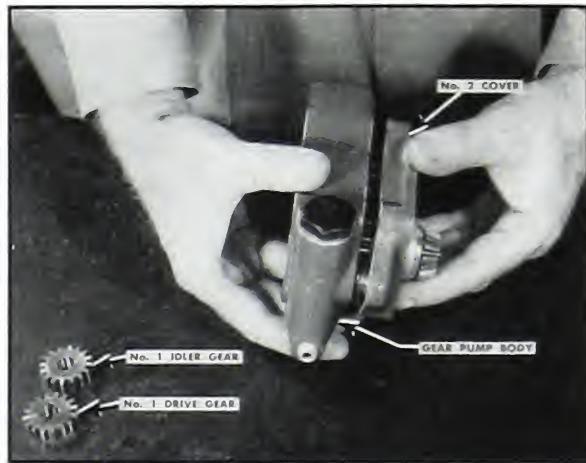

Fig. 5-282. Disassemble No. 2 cover and pump body
3. Pull out the gear drive pin and pull the No. 2 cover from the gear pump body. Fig. 5-282.